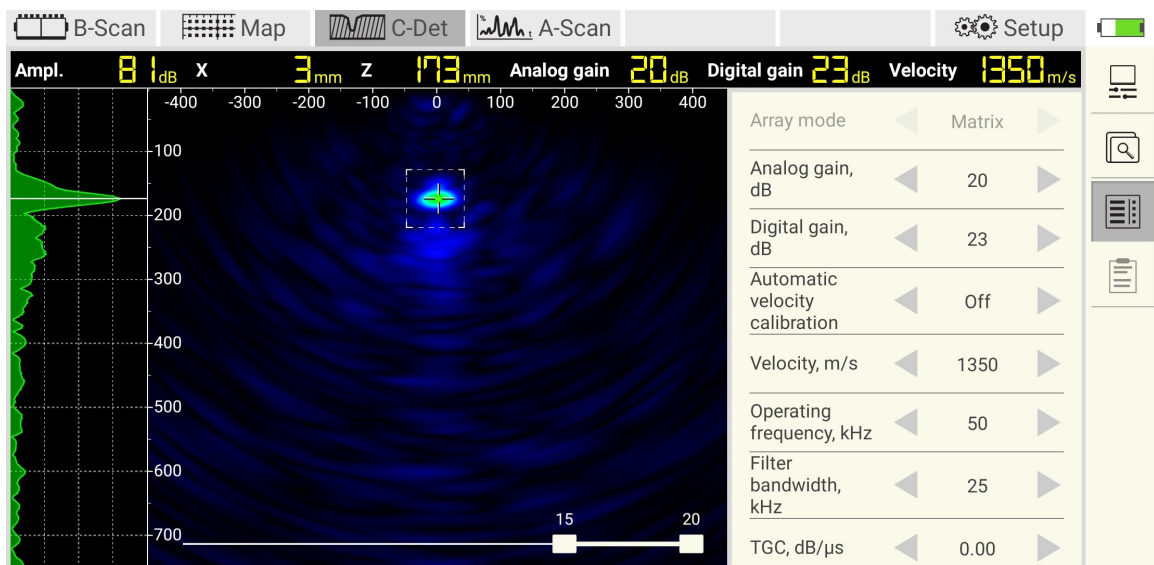

Figure 8: Crack-depth evaluation
- Try to locate the area of interest using the cursor (Figure 8)